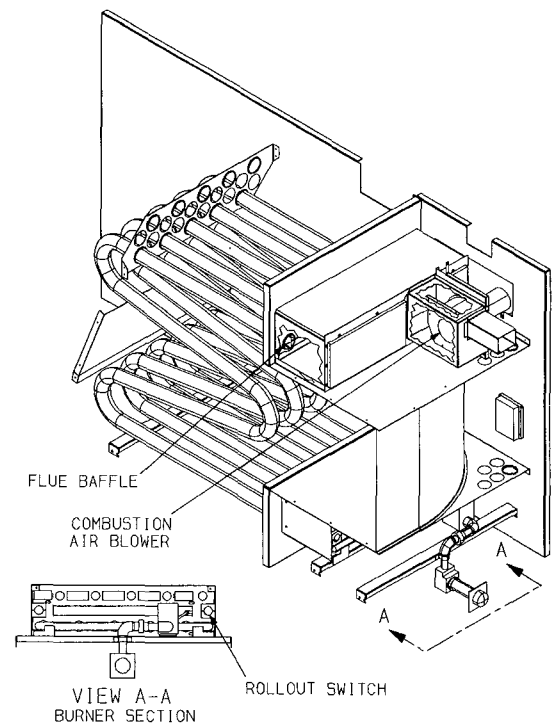

**Fig. 21 — Gas Section Detail, 48LJD (Low Heat)**
**GAS HEAT SECTION** — Access to the gas heat section is through the panel labeled **HEAT SECTION** on the left side of the unit (when facing condenser coil). See Fig. 21 and 22.
**FLUE GAS PASSAGEWAYS** — The flue collector box and heat exchanger cells may be inspected by removing the combustion-air blower(s), flue box cover, and main burner assembly. See Fig. 21 and 22 for proper removal sequence. If cleaning is required, remove heat exchanger baffles through the flue box and clean all parts with a wire brush. When replacing heat exchanger baffles, be sure to replace screw through clamp on baffle retaining rod into the vestibule plate.